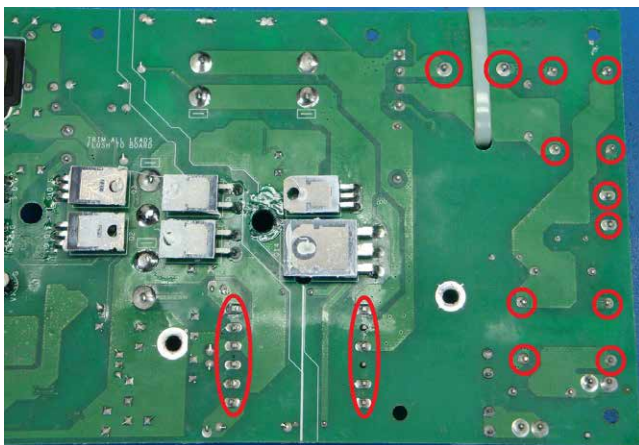

Figure 9.5 - Components to heat up with solder and check for lead breaks
- Check every single component in Figure 9.5 and the table below for lead breaks.